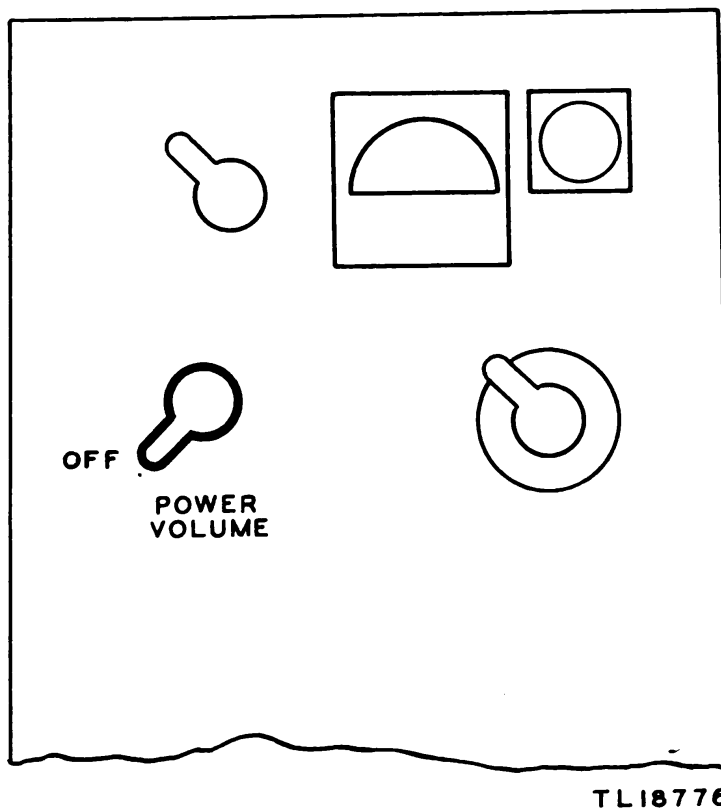

Figure 37. POWER VOLUME control.
a. POWER VOLUME Control (fig. 37). The POWER VOLUME control knob controls the main power switch and varies the volume of the receiver. The volume control circuit is so designed that this control has no effect on the transmitter after the switch is tripped.
d. Turn on the set by rotating the POWER VOLUME control in a clockwise direction (fig. 37). A click indicates that the set has been turned on. A hissing sound is heard after a moment, usually indicating that the receiver is operating properly.